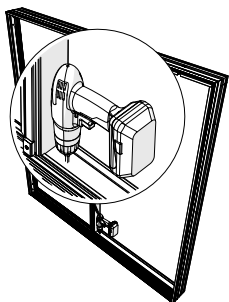

Figure 19: Drill in bottom in wooden part under aluminum cover
17. Fasten with screws under the tread cover with a maximum spacing of 900 mm (figure 19) at the mullion and center of the threshold.